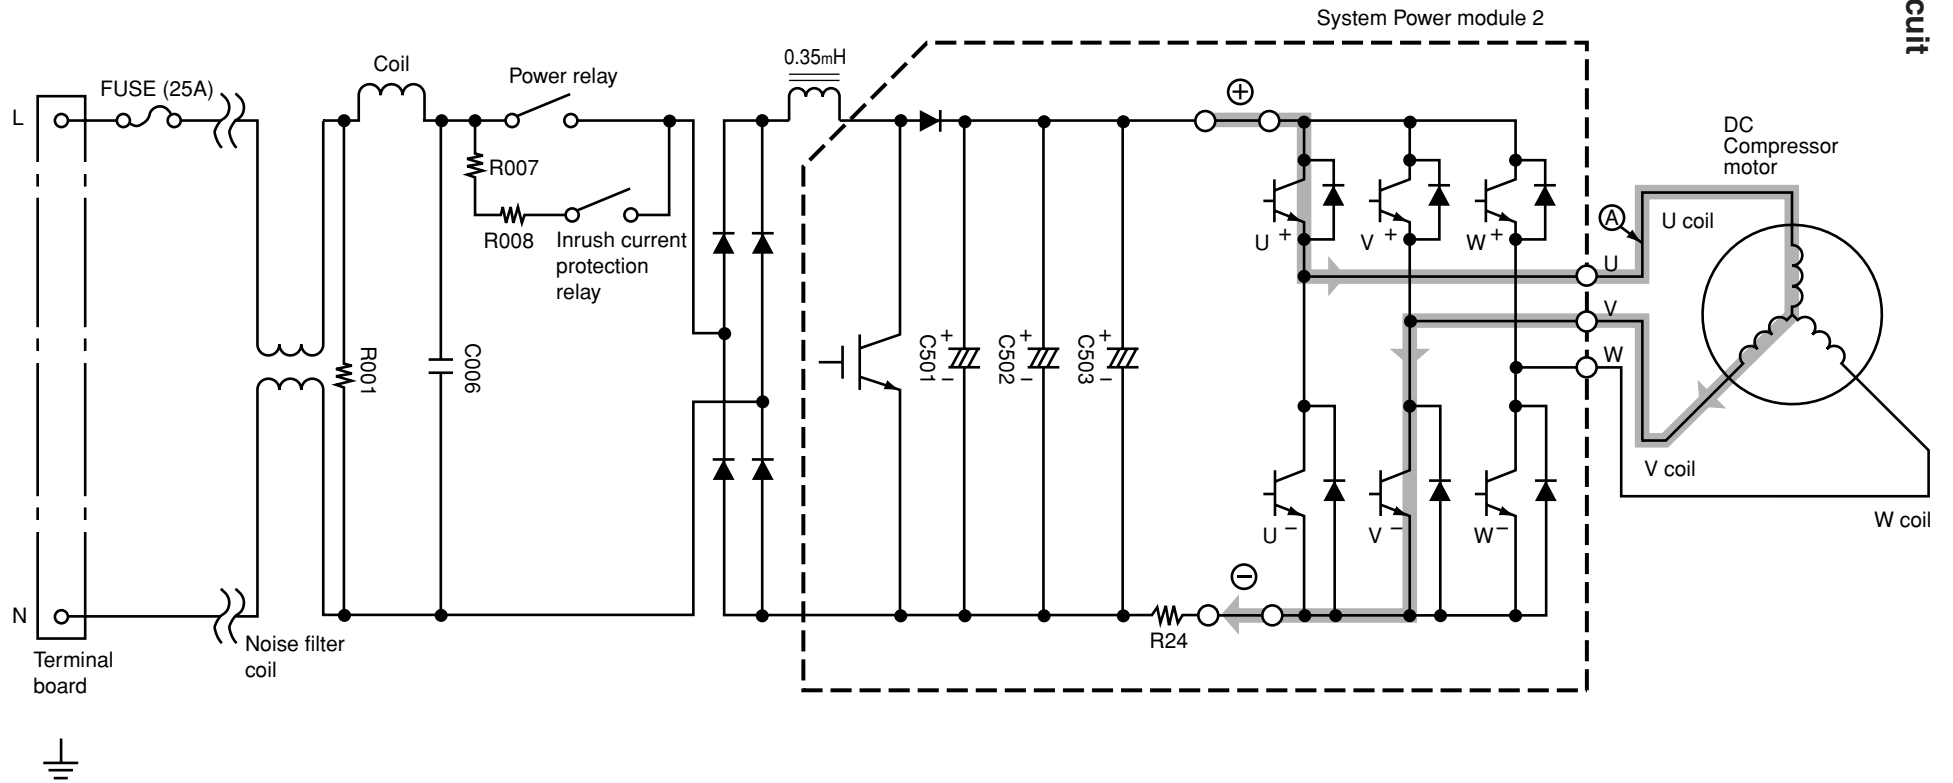
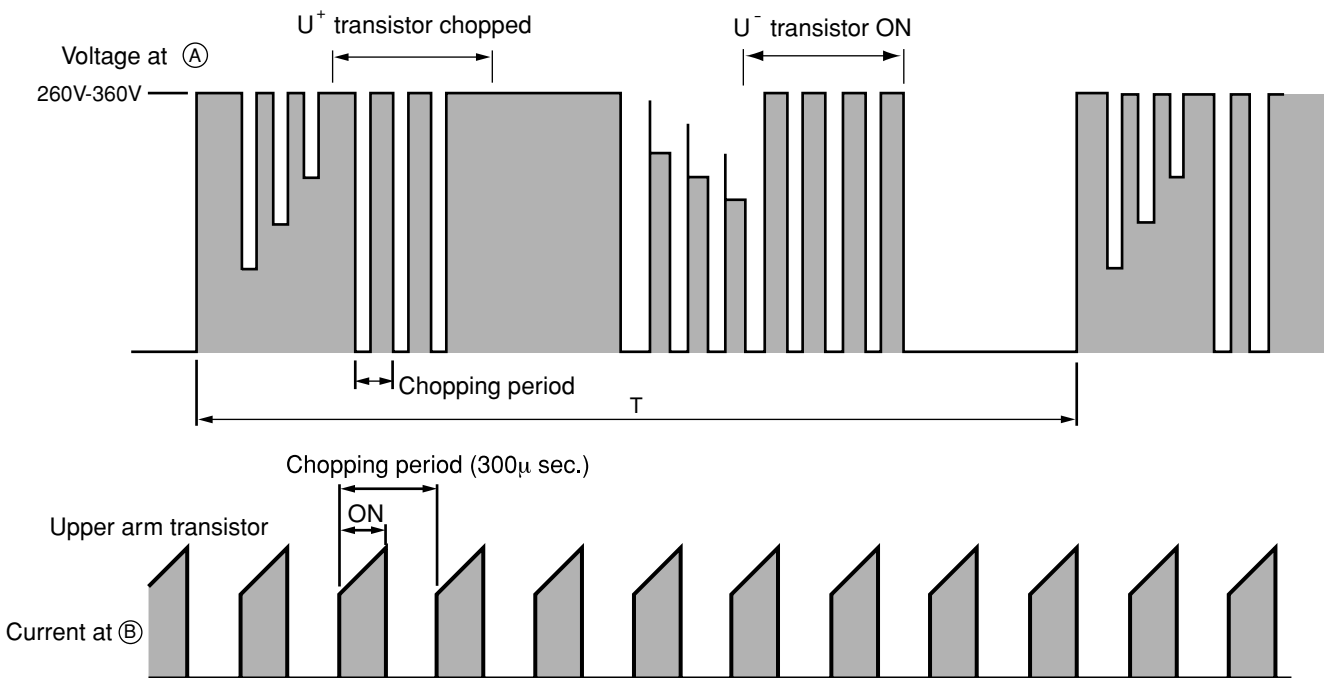

Fig. 3-1 Power module circuit ( $U^+$  is ON,  $V^-$  is ON)
Fig. 3-3 Voltage waveform at each point
- Fig. 3-1 shows the system power module and its peripheral circuit.
- Fig. 3-3 shows voltage waveform at each point shown in Figs. 3-1 and 3-4. First half of upper arm is chopper, second half is ON, and first half of lower arm is chopper, second half is ON.
- When power is supplied U+ → U-, because of that U+ is chopped, current flows as shown below; (B)
- (1) When U+ transistor is ON: U+ transistor → U coil → V coil → V- transistor → DC current detection resistor → Point (B) (Fig. 3-1)
- Since current flows at point B only when U+ transistor is ON, the current waveform at point B becomes intermittent waveform as shown in Fig. 3-3. Since current at point B is approximately proportional to the input current of the air conditioner, input current is controlled by using DC current (Id) detection resistor.